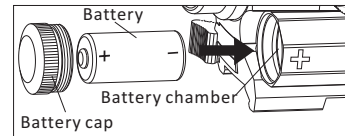

Fig2
2. Please see the fig 2 for battery installation and Replacement:
- ① Left-turning to open the battery cap.
- ② Insert the battery into the cabin with the right marked polarities "+" "-", (See Fig2), Take the waste battery out for replacement.
- ③ Rotate to close the cap.